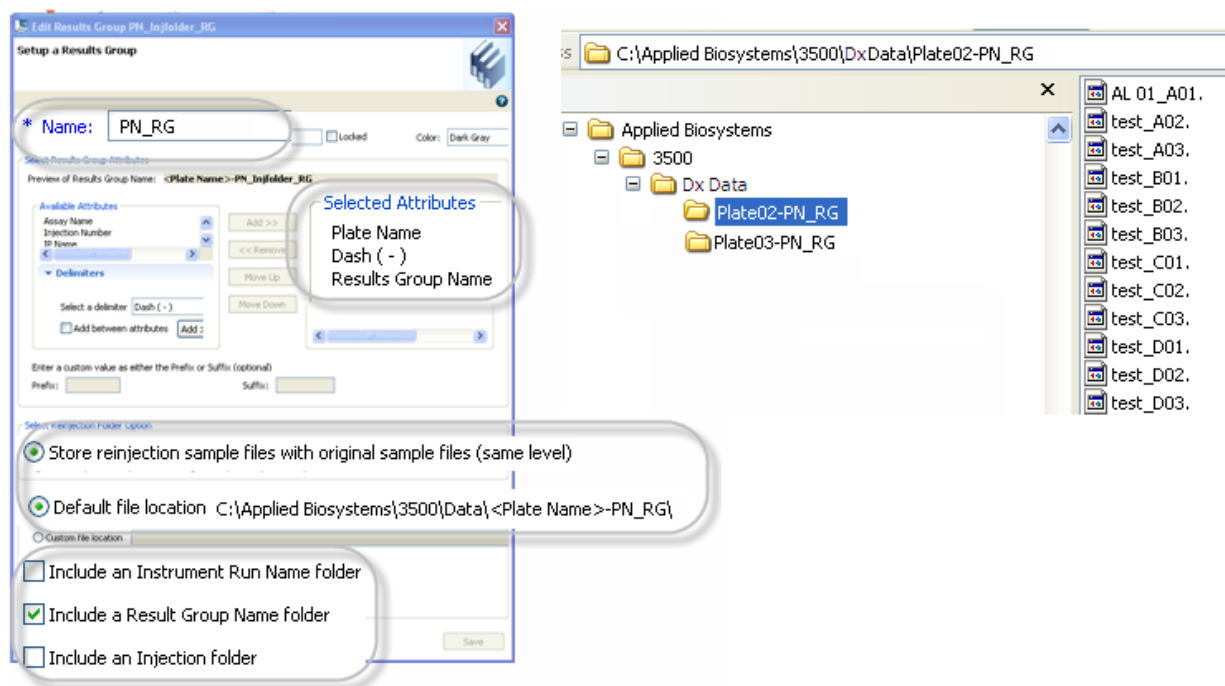

Figure 19 PN_RG results group
- Figure 19 shows the factory-provided PN_RG results group and the folders created when it is used. This results group does not create a folder for each injection. All samples for a plate are stored in the same folder. If you include two plates in a run, a separate folder is created for each plate.